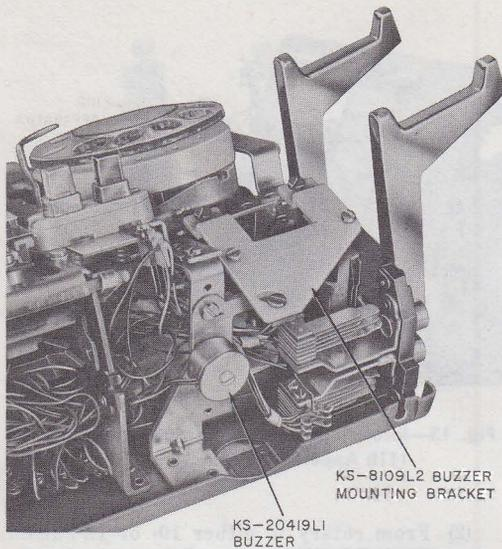

Fig. 15—Mounting Location for First Buzzer
**2.24** ♦ Current model CALL DIRECTOR sets are furnished from the factory equipped with a KS-20419L1 (10 volt AC only) buzzer (Fig. 15).
**2.25** In early model CALL DIRECTOR sets, KS-8100 type buzzers were mounted at location shown in Fig. 15 and 17.
**2.26** If a second buzzer is required, a KS-20419L1 can be mounted at any convenient location using a single screw and KS-8109L2 at location shown in Fig. 15 or 17.